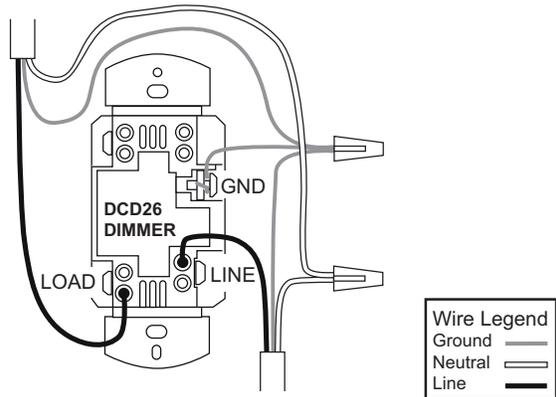

Figure 1: Single location wiring
5. Wire the LINE (black), LOAD and GND supply wires to the correspondingly marked screw terminals, according to Figure 1. Does not use a neutral connection.